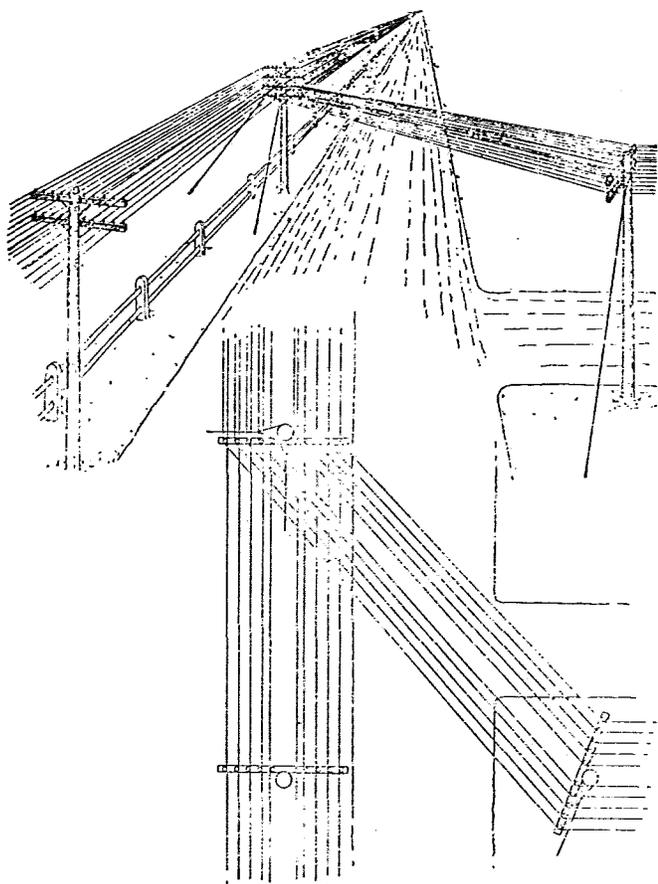

Fig. 1
2.01 Where practicable, in order to avoid reverse (buck) arm construction, terminate side leads on two-pole corners as shown in Fig. 1. The pull on either pole should preferably not exceed the limits provided for in Section 621-200-011.